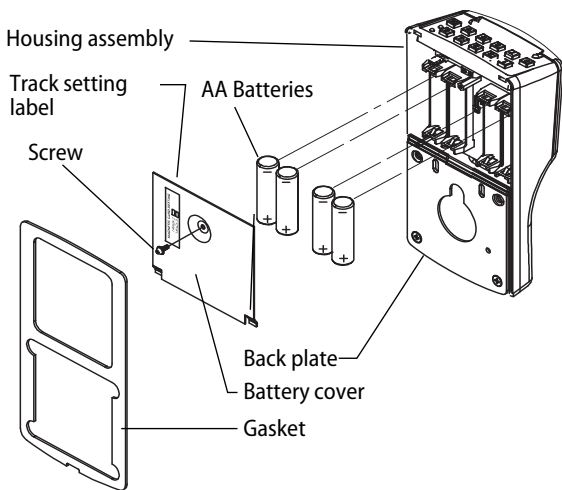

Figure 1 Installing batteries
- 1 Remove the gasket from the rear of the housing assembly as shown in Figure 1.
- 5 Replace the battery cover. See Figure 1. Make sure that the tabs on the lower edge of the battery cover are hooked over the edge of the back plate and secure the cover with the screw.
- 6 Replace the gasket. See Figure 1. Make sure that it is inside the edge of the housing.